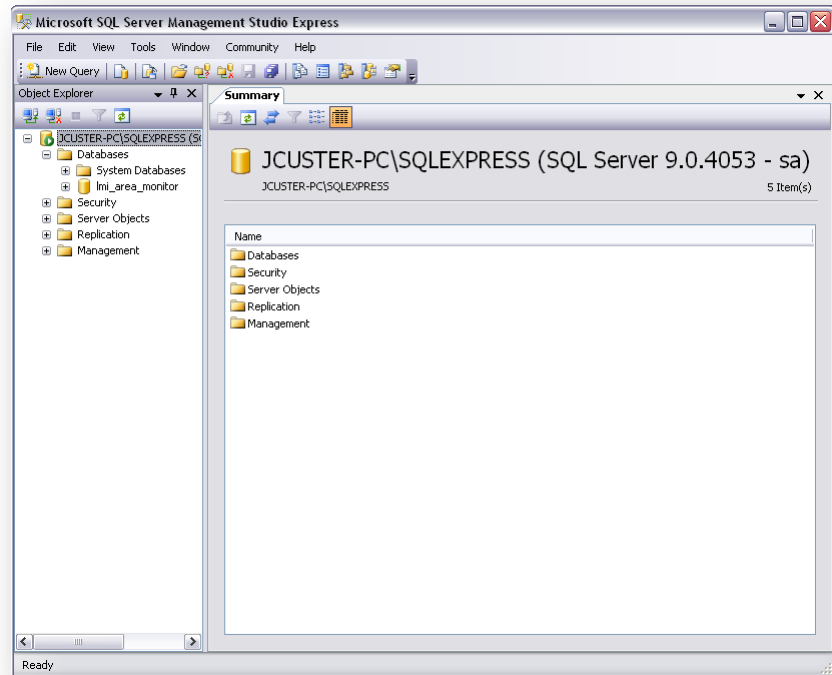

Figure 64 – SQL Server Management Studio Express showing new database
2. When the Welcome screen appears, click "Next". See Figure 64.